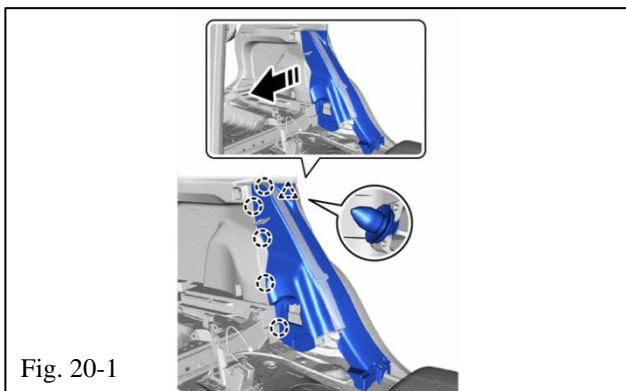

Fig. 20-1
- (a) Disengage the Rear Seat LH Garnish by hand, and releasing the 5 snaps (Fig. 20-1).